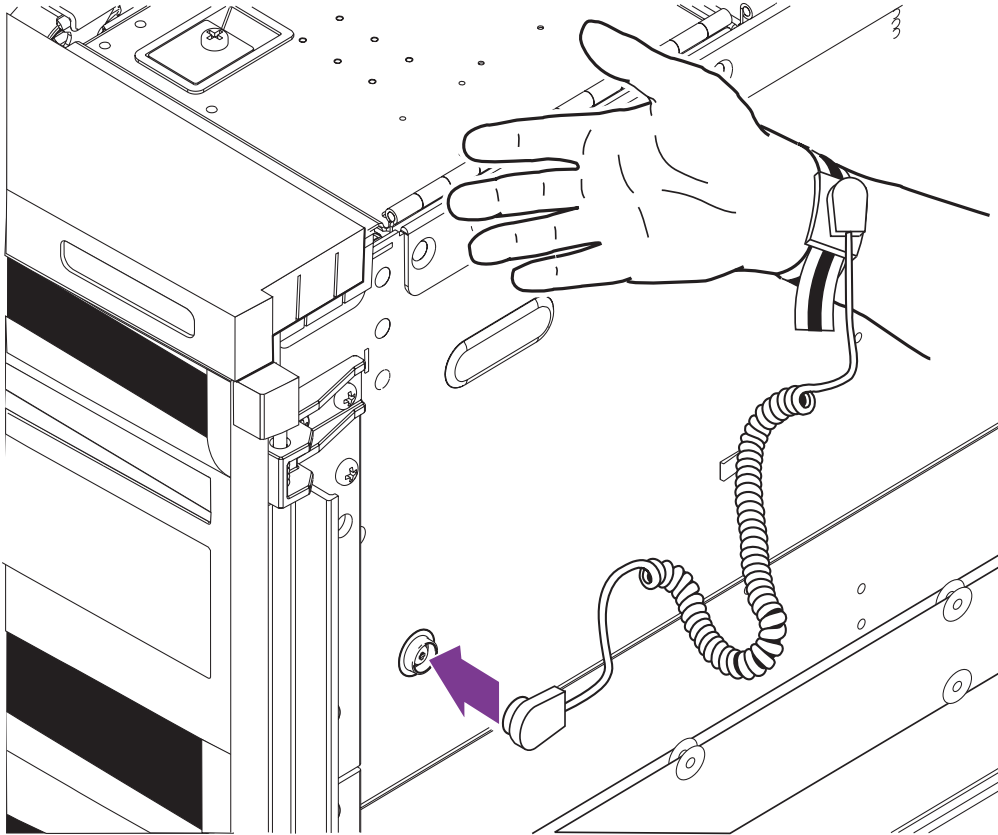
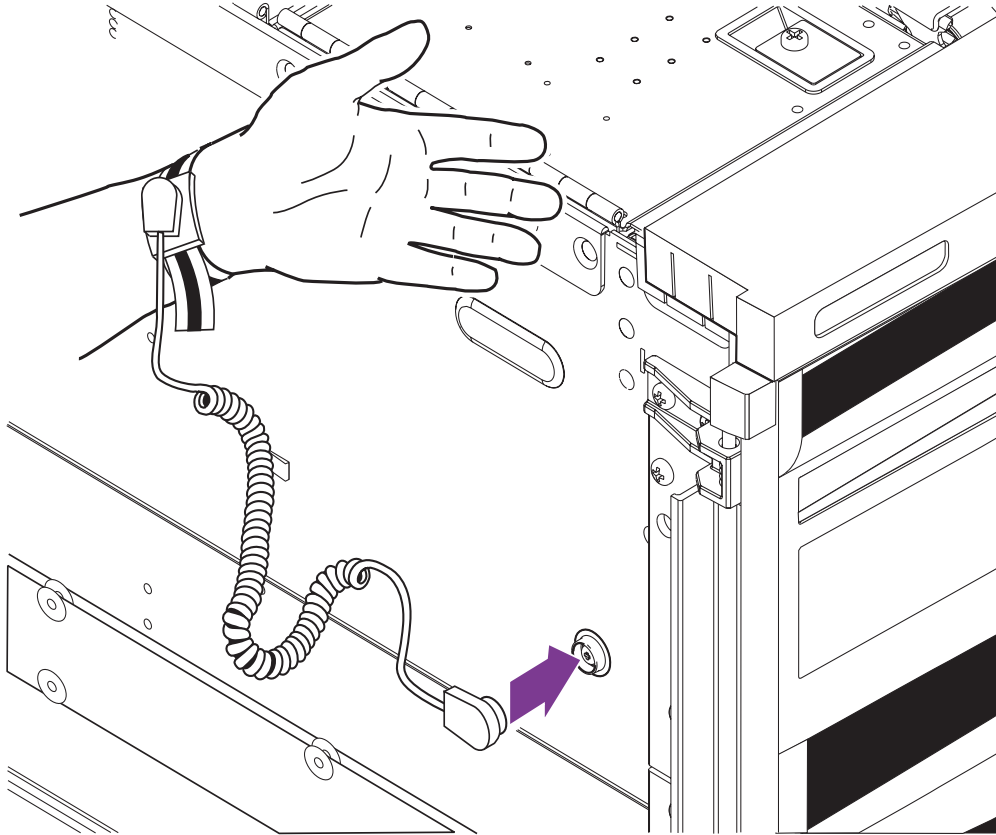

FIGURE 2 Attaching the Wrist Strap – Right-Hand Side
FIGURE 3 Attaching the Antistatic Wrist Strap – Left-Hand Side
- **To attach the antistatic wrist strap to the chassis, connect the strap as shown in FIGURE 2 or FIGURE 3.**